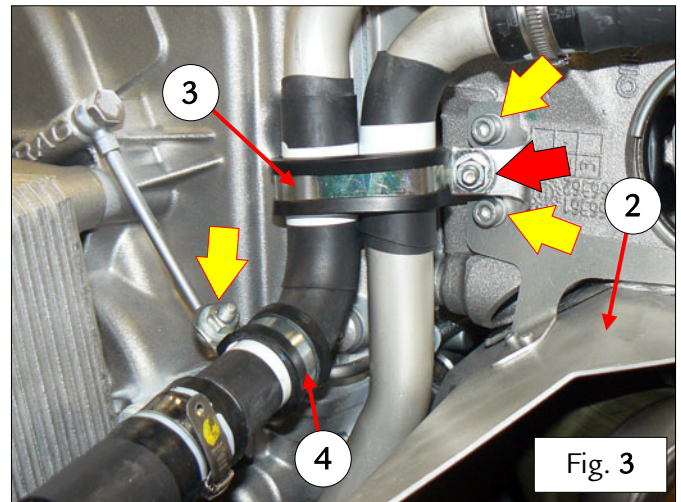

Fig. 3
- Retrieve the spacer (4) from the relative seat on the connector casing – Fig. 3.
- Undo the two indicated screws fastening the heat shield (2) – Fig. 3.
- Undo the nut indicated by the red arrow on the clamp (3) – Fig. 3.
- Move the heat shield (2) as far away from the gearbox as possible – Fig. 3
- Undo the indicated nut on the clamp (4) – Fig. 3
- Seal the indicated GL oil inlet and outlet orifices on the gearbox with the gearbox pressurizing tool **AV 8604**, and then fasten by tightening the indicated screw – Fig. 3.
- Connect the pressurizing system to the plug (1) – Fig. 3.